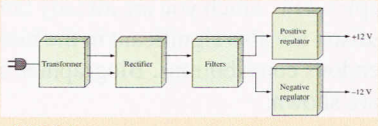
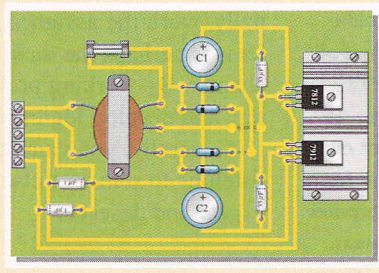
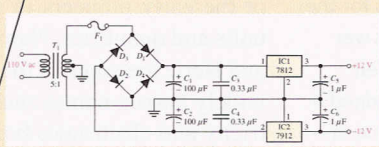

FIGURE 18-40
FIGURE 18-41
FIGURE 18-42
The block diagram of the dual-polarity power supply is shown in Figure 18-40, and the circuit board is shown in Figure 18-41. The large vertically mounted capacitors are the 100 μ F filter capacitors. The 0.33 μ F and 1 μ F capacitors, although not necessary in all applications, are recommended by the manufacturer for stability and improved transient response.
- Make sure that the circuit board shown in Figure 18-41 is correct by checking it against the schematic in Figure 18-42. Backside interconnections are shown as darker traces.